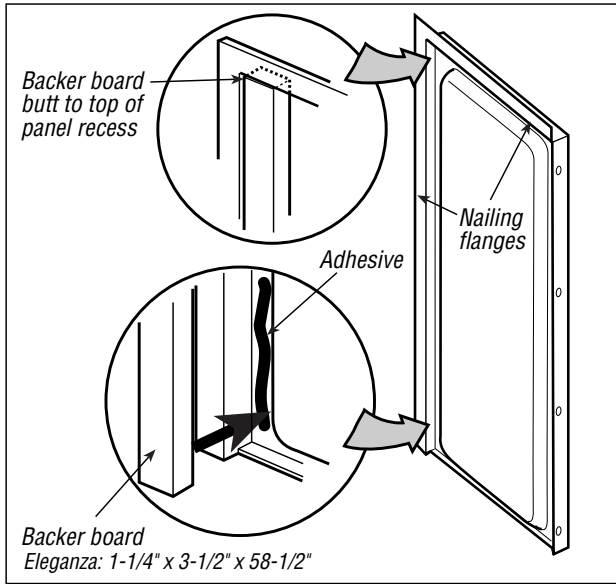

Figure 1
- 1** If you will be installing a tub door, a backer board (note size in Figure 1) must be installed on the back of both side walls. Apply a bead of adhesive in the recess of each side wall and attach board (Figure 1), butting board up to the top of the recess.